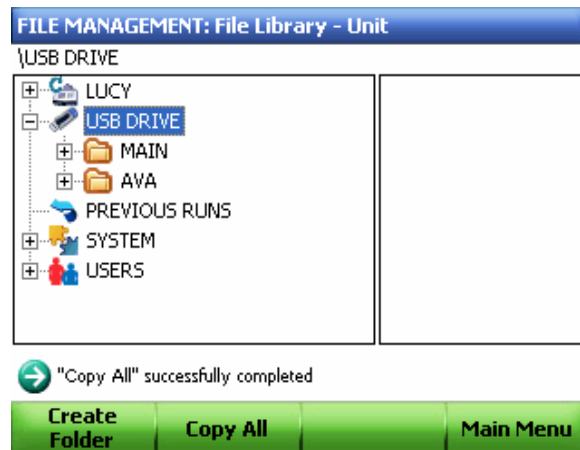

Figure 83. All files from the LUCY thermal cycler are copied into the USB key.
6. Select **Yes** to confirm that all files were successfully copied (Figure 83).